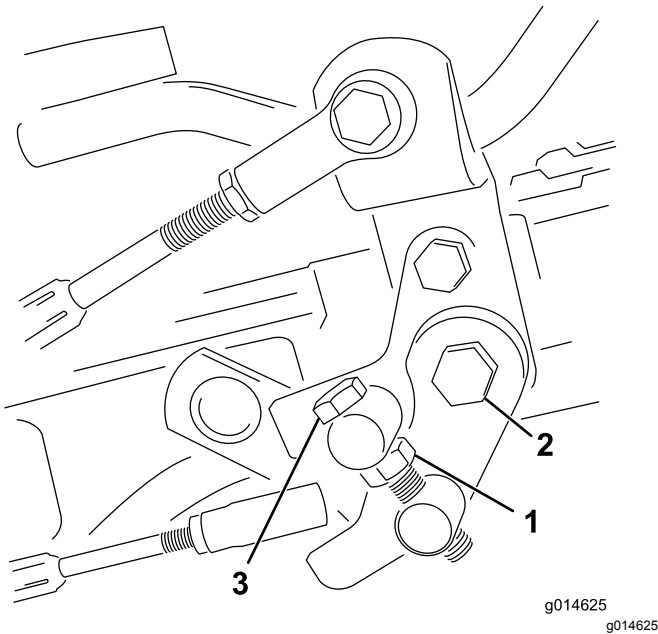

Figure 35
1. Loosen the jam nut on the trunnion bolt (Figure 35).
4. Tighten the jam nut on the trunnion bolt and the nut on the pedal pivot to lock the adjustment (Figure 35). Check the adjustment and adjust as required.